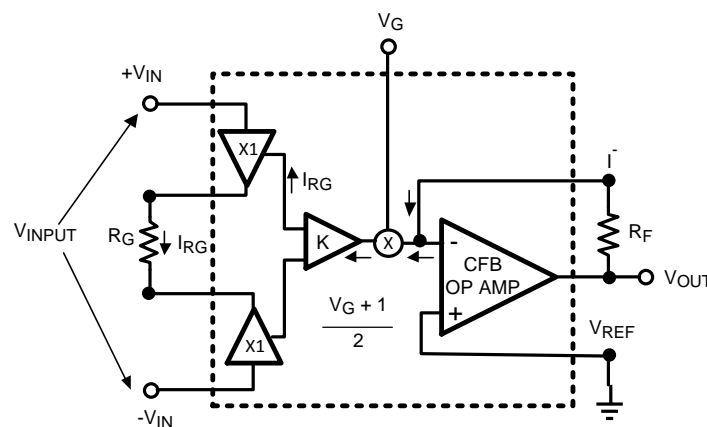

Figure 59. LMH6503 Functional Block Diagram
The LMH6503 is a linear wideband variable-gain amplifier as illustrated in Figure 59. A voltage input signal may be applied differentially between the two inputs (+VIN, -VIN), or single-endedly by grounding one of the two unused inputs. The LMH6503 input buffers convert the input voltage to a current (IRG) that is a function of the differential input voltage (VINPUT = (+VIN) - (-VIN)) and the value of the gain setting resistor (RG). This current (IRG) is then mirrored to a gain stage with a current gain of K (1.72 nominal). The voltage controlled two-quadrant multiplier attenuates this current which is then converted to a voltage via the output amplifier. This output amplifier is a current feedback op amp configured as a Transimpedance amplifier. Its Transimpedance gain is the feedback resistor (RF). The input signal, output, and gain control are all voltages. The output voltage can easily be calculated as shown in Equation 1: